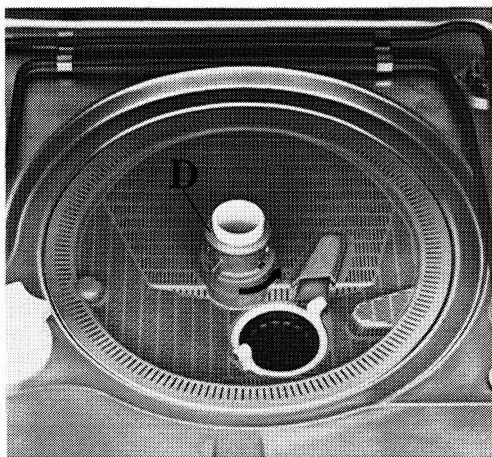

fig. 20
To remove this large filter (A), take off the bottom sprayarm and unlock part D (fig. 20).